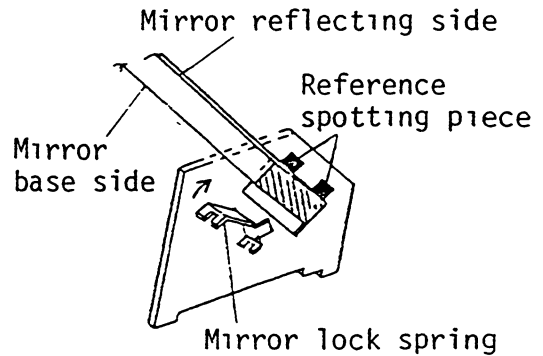

Fig.9
- (1) Set the master length to 40 - 48 cm, and make an exposure.
- (2) Measure the length of the exposure (master) and compensate for the difference between the actual length and set length by adjusting the position of the microswitch mount in the long hole of the rack.
* The block where the optical system mirror is mounted has three cloth spotting pieces on the mirror reflecting side (two on one side and one on the other). See Fig.9.